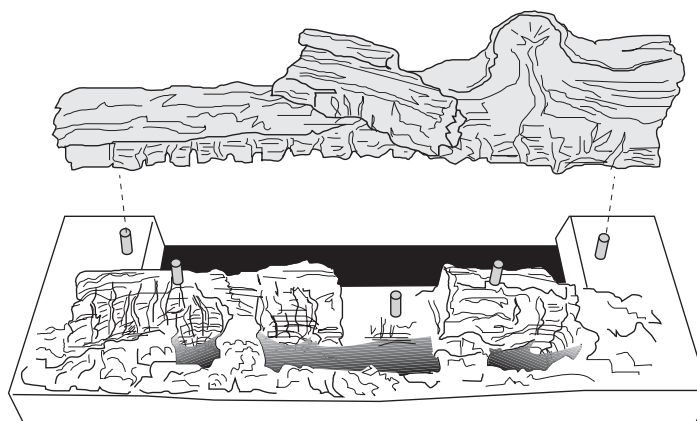

Figure 22. Engage Rear Log with Base pegs.
1. Place the Rear Log in position on Ceramic Base pegs as shown in fig. 22. The base is already installed in the fireplace.